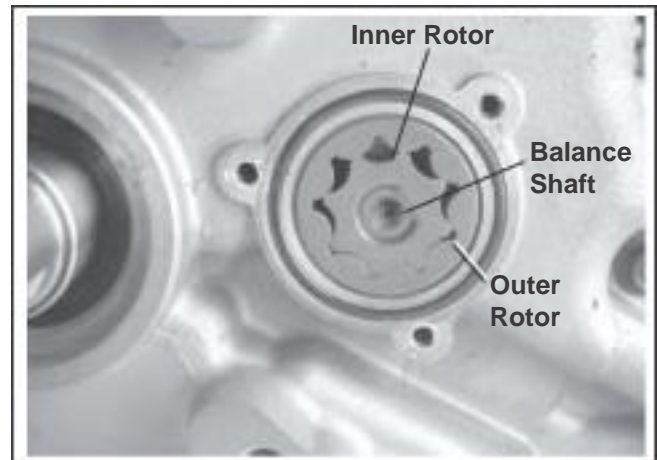

Figure 11-21. Installing Oil Pump Gears and O-Ring.
1. Lubricate the oil pump cavity and oil pump rotors with engine oil. Install the outer and inner oil pump rotors. See Figure 11-21.